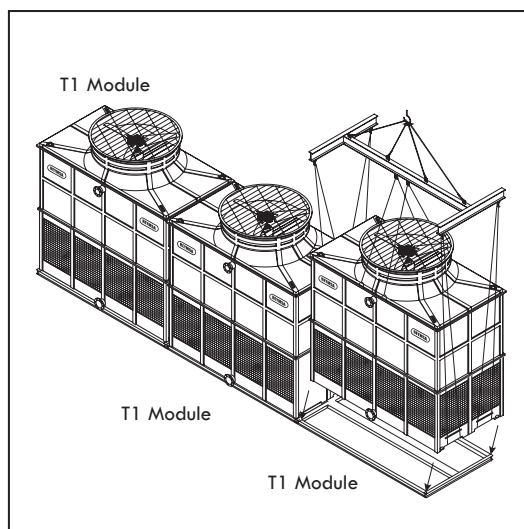

Figure A-91: Last T1 Module lifting and installation for a modular tower (RTGM-B-S)
- C. Lift and install the last module. This module should have 3 air inlet sides (two large sides and one short side). See Figure A-91 for reference.